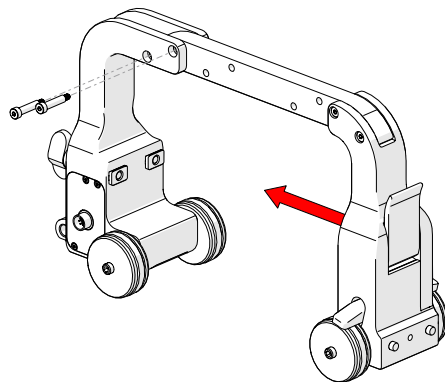

Fig. 19 - Align screw holes
2. With the 2 shoulder screws removed, position the two halves of the corrosion link closer together, align the screw holes and insert the shoulder screws (Fig. 19).